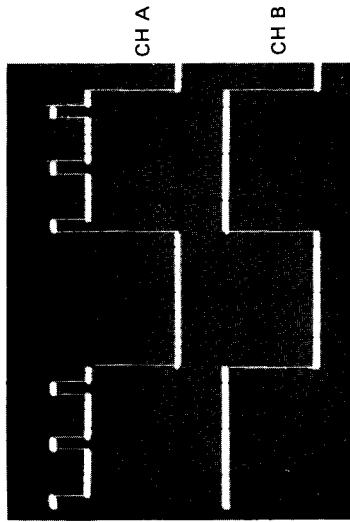

Figure 17. Common-Mode Signals
2. Apply signal similar to unwanted component to channel B INPUT **53**. (See figure 17.)